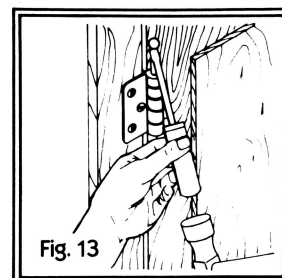

Fig. 13
1. Remove the pin from both the top and bottom hinges by tapping the pin upward with a hammer and screwdriver (fig. 13).